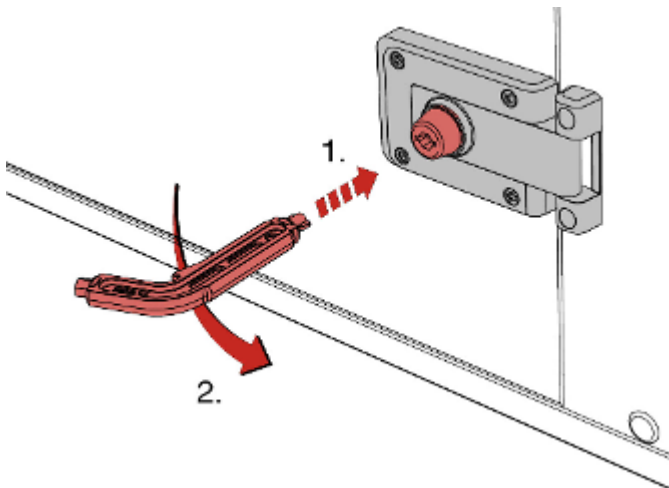

Fig. 54: Opening the lock
2. ▶ Turn the key or the operating lever 90° anti-clockwise ( Fig. 54 ).